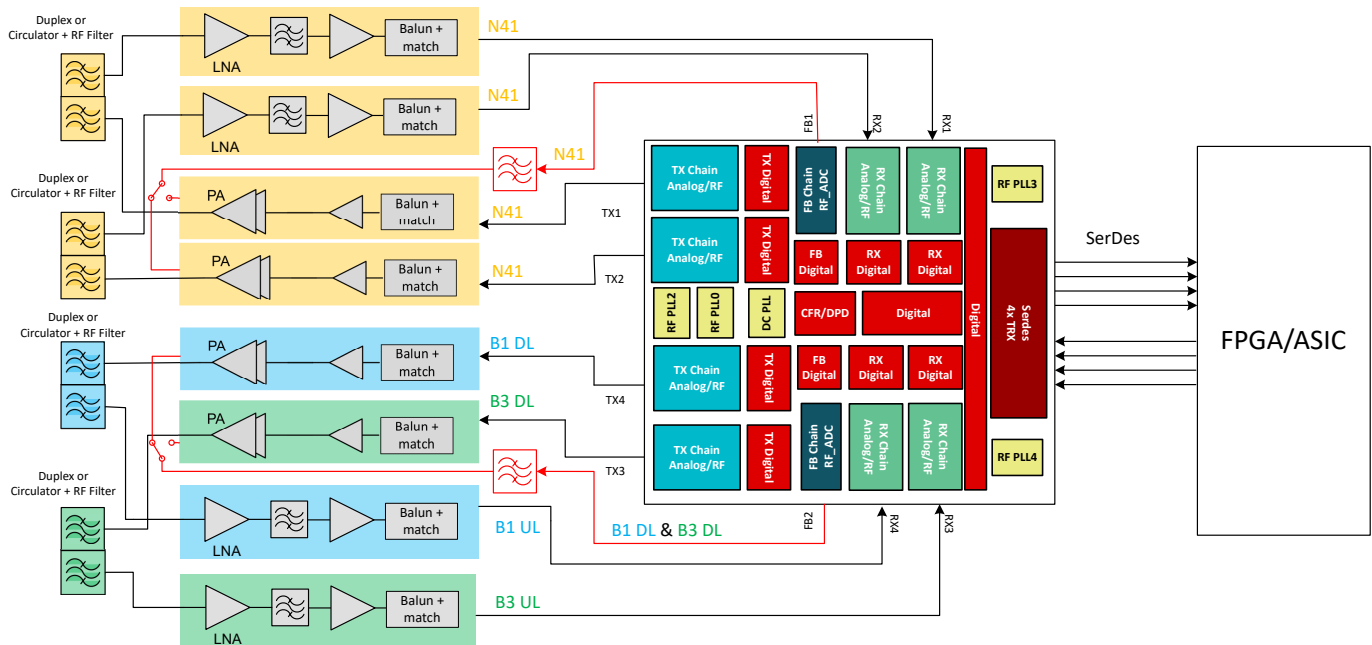

Figure 1-1. Example Block Diagram of a Triple-Band Radio (2T2R N41 + 1T1R B1 + 1T1R B3)
Designing a multi-band radio faces many challenges including increased size and weight, high power consumption, additional inter-band interference, and so on. This white paper shows how TI's RF transceiver AFE7769D can be used to enable a compact triple-band radio design, as shown in Figure 1-1, where 1T1R operating at 3GPP frequency band B3, 1T1R operating at frequency band B1 and 2T2R operating at frequency band N41. The Crest Factor Reduction (CFR) and Digital Pre-Distortion (DPD) results of the AFE7769D transceiver in conjunction with the following power amplifiers (PA) from Skyworks: SKY66391-12, SKY66394-11, and SKY66522-11 are presented.